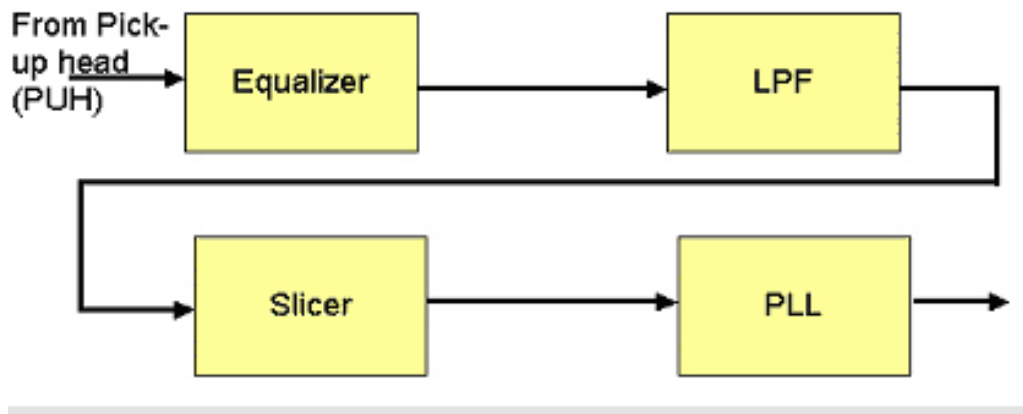

Figure 1. Signal Processing Architecture
Thankfully, the fundamental signal processing blocks of the DVD remains the same; see Figure 1. Most of the upcoming standards continue to use the Equalizer, Low Pass Filter (LPF), Slicer and Phase lock loop (PLL) blocks. Designers need to substitute or fine-tune these signal processing blocks (Equalizer, Low pass filter, Slicer and PLL) to maximize design performance.
Developers are currently using digital oscilloscopes to capture raw DVD (RF) data, or the outputs of the other processing blocks in Fig. 1. This data is then transferred to a PC that is running custom analysis and simulation tools. These custom tools, generally based on MATLAB or similar software tools, are developed in-house by these companies to test their state-of-the-art designs based on their own custom implementations of various signal processing blocks. The system-under-test is then analyzed based on these custom implementations. This is a highly crude and error-prone methodology that significantly affects time-to-market.
To better understand the full capability that TekFlex delivers to solve a user's needs, we shall analyze a hypothetical alternative structure to Fig. 1, namely a maximum likelihood (ML) implementation. The same idea can be used for a PRML implementation.